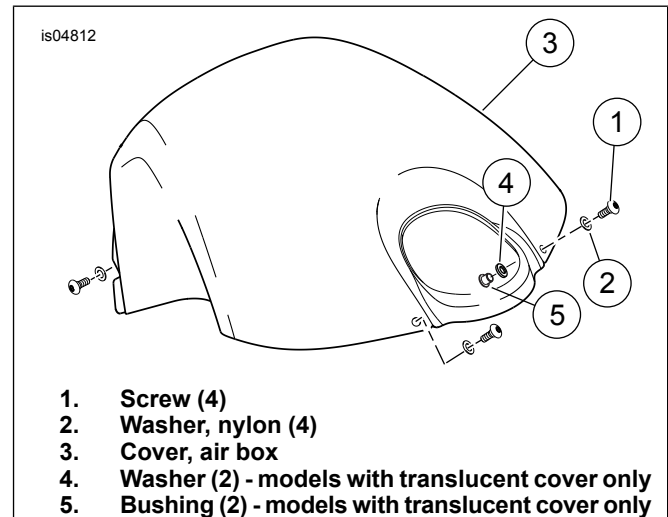

Figure 1. Air Intake Cover Removal
4. See Figure 1. Turn front wheel to the opposite side and remove front screw (1), washer (2 and 4) and bushing (5) as equipped from air intake cover. Repeat for opposite side hardware. Discard all hardware.